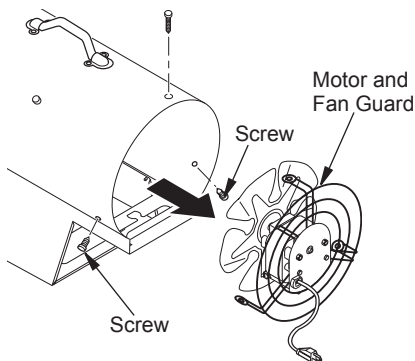

Figure 6 - Removing Motor and Fan Guard from Heater
2. Remove motor and fan guard from heater shell (see Figure 6).
2. Remove motor and fan guard from heater shell (see Figure 6, page 7).